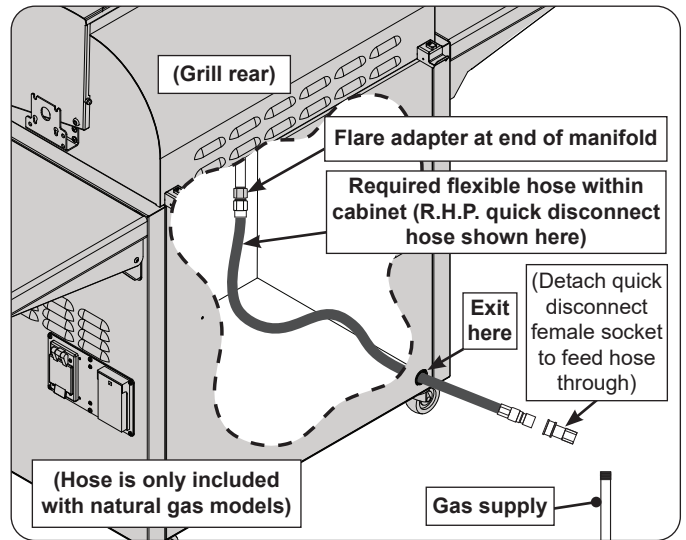

Fig. 24-1 Flexible hose assembly detail
2. **Household propane only:** A regulator hose assembly designed for L.P. cylinders comes pre-installed to the unit valve manifold. First remove this assembly from the flare adapter (at end of manifold), and then install a quick disconnect hose or similar (purchased separately) to the adapter. (An R.H.P. quick disconnect hose is recommended - see third bullet above.) Use a pipe joint compound resistant to all gasses on all NPT pipe fittings except flare fittings. Reference Fig. 24-1. Then proceed to step 3.
3. Route the quick disconnect hose (or similar) out of the hole in the rear bottom right of the cabinet, and to the gas supply (see Fig. 24-1).